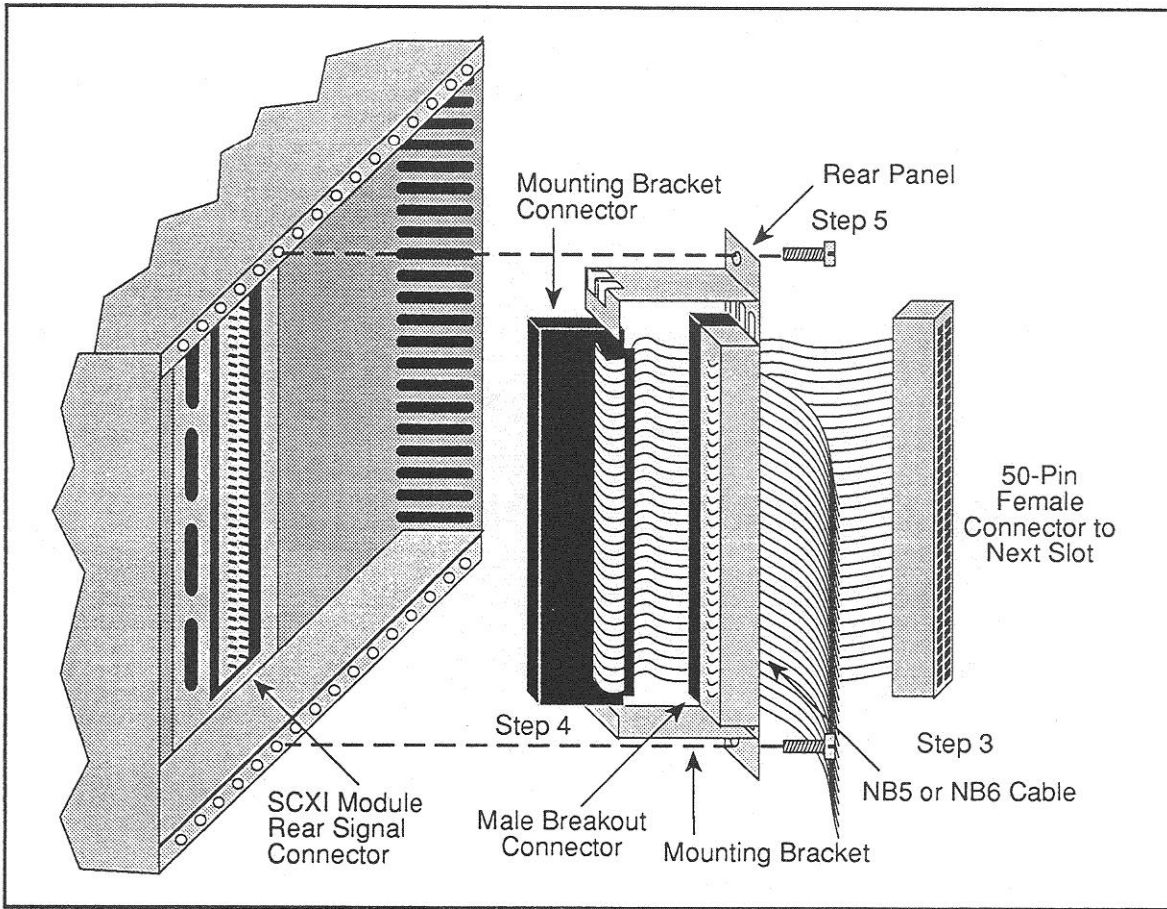

Figure 3. SCXI-1351 and NB5 or NB6 Cable Installation
4. Plug the mounting bracket connector into the module rear signal connector (see Figure 3). Make sure the alignment tab on the bracket enters the upper board guide of the chassis.
Figure 3 shows the SCXI-1351 cable installation in detail.